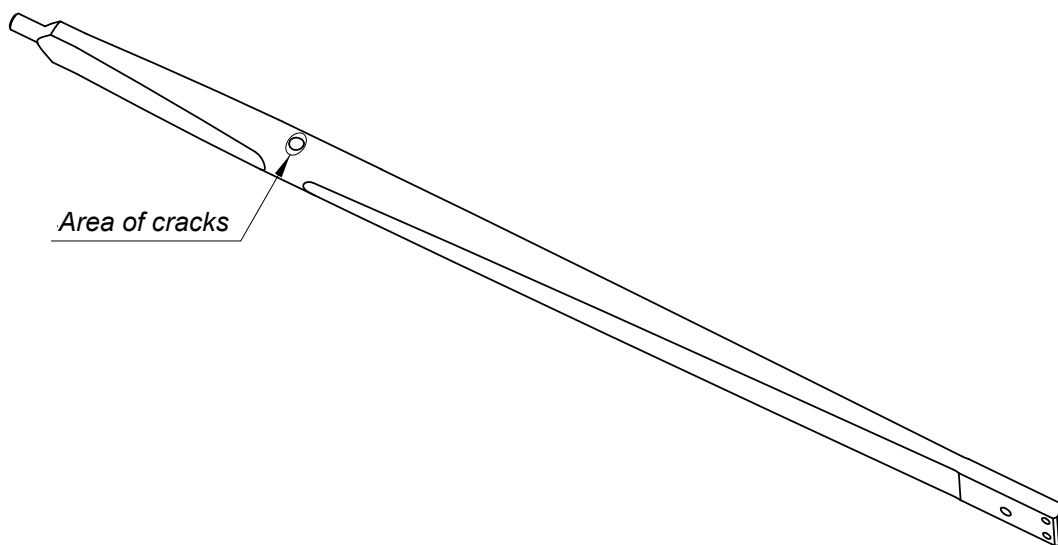

Fig. 4
7. Take out the spring (1) and inspect for cracks, especially in the specified area (see fig.4).
8. Remove the bracket (3) after detaching the eight bolts (14) and inspect it for cracks.